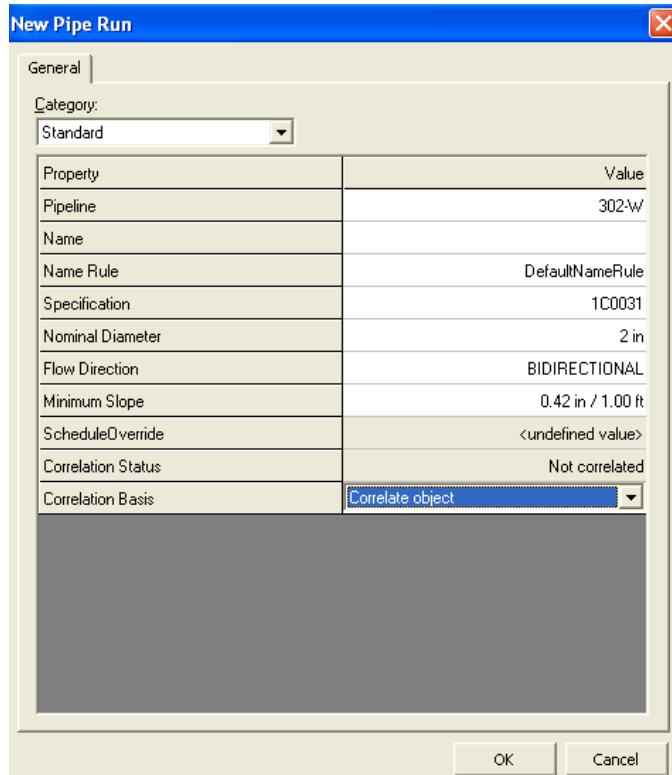

Figure 51: New Pipe Run Dialog Box
5. The **New Pipe Run** dialog box appears, as shown in Figure 51. Select **302-W** in the **Pipeline** field. The system automatically selects the other parameters by using the piping specification. The specifications in the **New Pipe Run** dialog box are as follows: